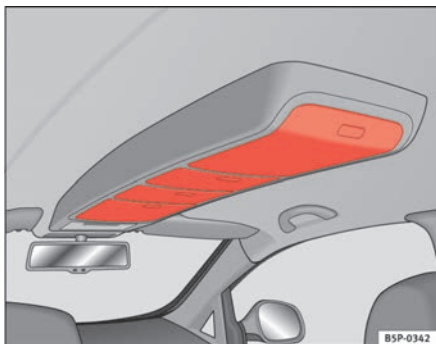

Fig. 105 Roof stowage compartments
- Press the button on the cover to open these compartments ⇒ fig. 105. The cover will then open.